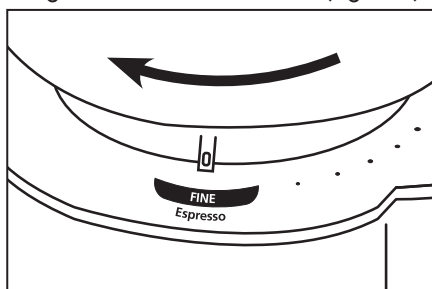

Figure 1
3. Install the Bean Hopper onto the unit and turn clockwise (several rotations-will hear clicking as unit gets tighter) until it stops with the grind size indicator on Fine (Figure 1).